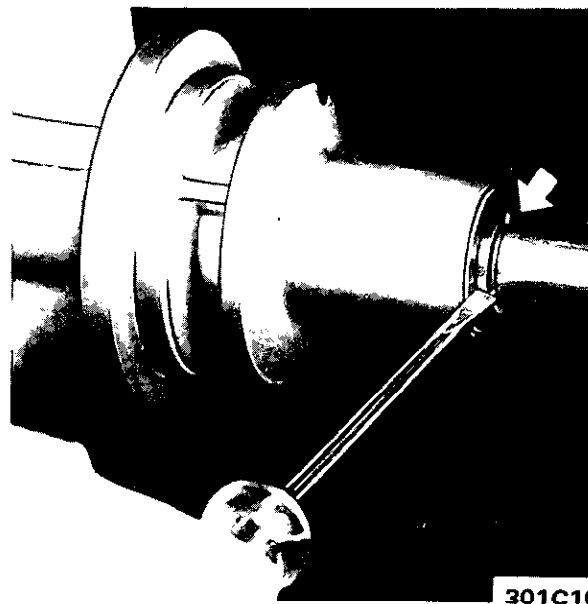

Figure 1C-10 Removing Retaining Ring
2. Push retaining ring out of groove in distributor shaft. See Figure 1C-10.